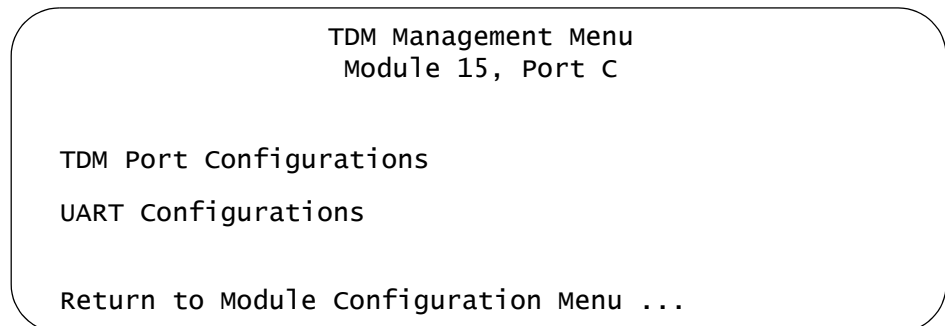

Figure 83. TDM Management Menu
3. From the Module Configuration Menu, select **3: TDM LIU (T1/E1) Configuration** to display the TDM Management Menu shown in Figure 83.
3. From the line card's Module Configuration Menu, select **TDM LIU (E1/T1) Configuration** to display the menu in Figure 83 on page 194.